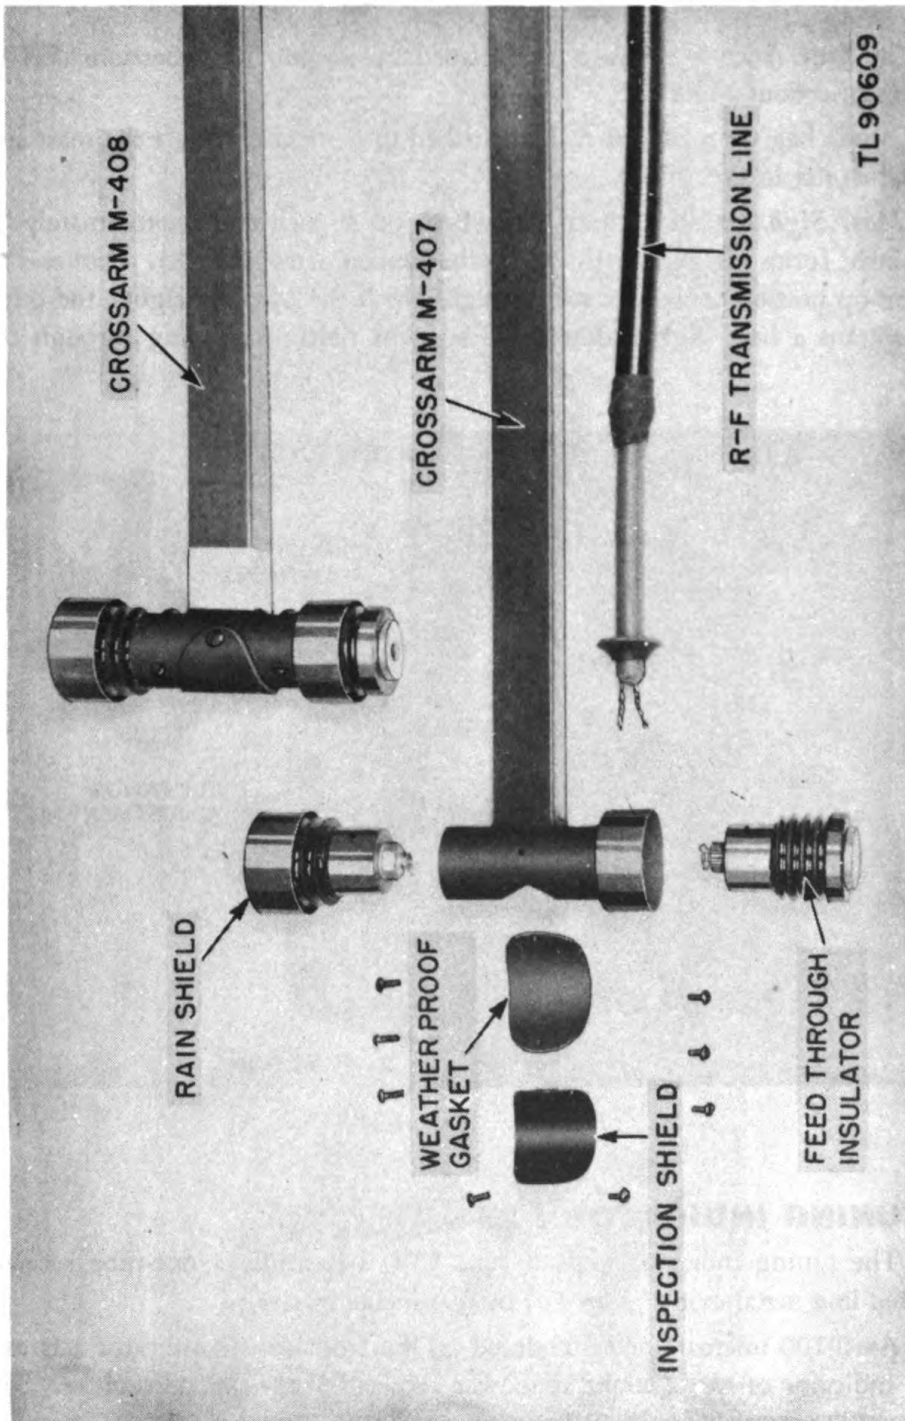

Figure 6. Crossarms M-407 and M-408.
*c. Adcock-type Antenna.* (1) Two crossarms M-407 and M-408 (fig. 6) consists of 46-inch lengths of 1-inch square metal tubing. Within each crossarm is a two-wire transmission line which connects the Adcock elements. The line is supported by feed-through insulators at one end and terminates in a female plug inserted into the other end. The crossarms are marked and the plugs are